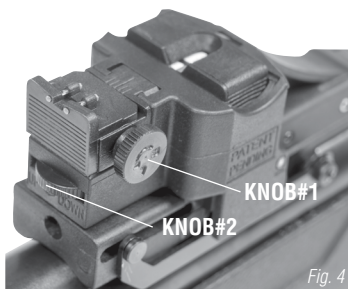

Fig. 4
- If the shot is deflected to the left of the target, turn the **KNOB#1** clockwise. (Fig. 4)
- If the shot is deflected to the right of the target, turn the **KNOB#1** counter-clockwise. (Fig. 4)
- If the shot is too high, turn **KNOB#2** clockwise. (Fig. 4)
- If the shot is too low, turn **KNOB#2** screw counter-clockwise. (Fig. 4)